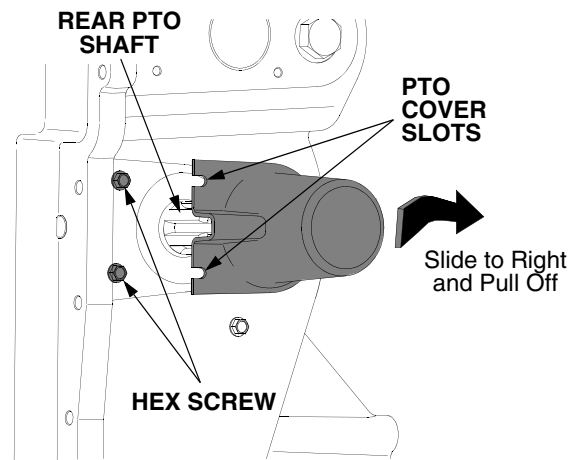

Figure 23
- Loosen the two screws on the left side of the cover. Refer to Figure 23.
- Slide the cover to the right until the slots of the cover are free of the screws and pull the cover off. Refer to Figure 23.
- When finished using the rear PTO, slide the cover fully onto the shaft; then slide the cover to the left until the slots are underneath the screw heads. Tighten the screws to secure the cover. Refer to Figure 23.